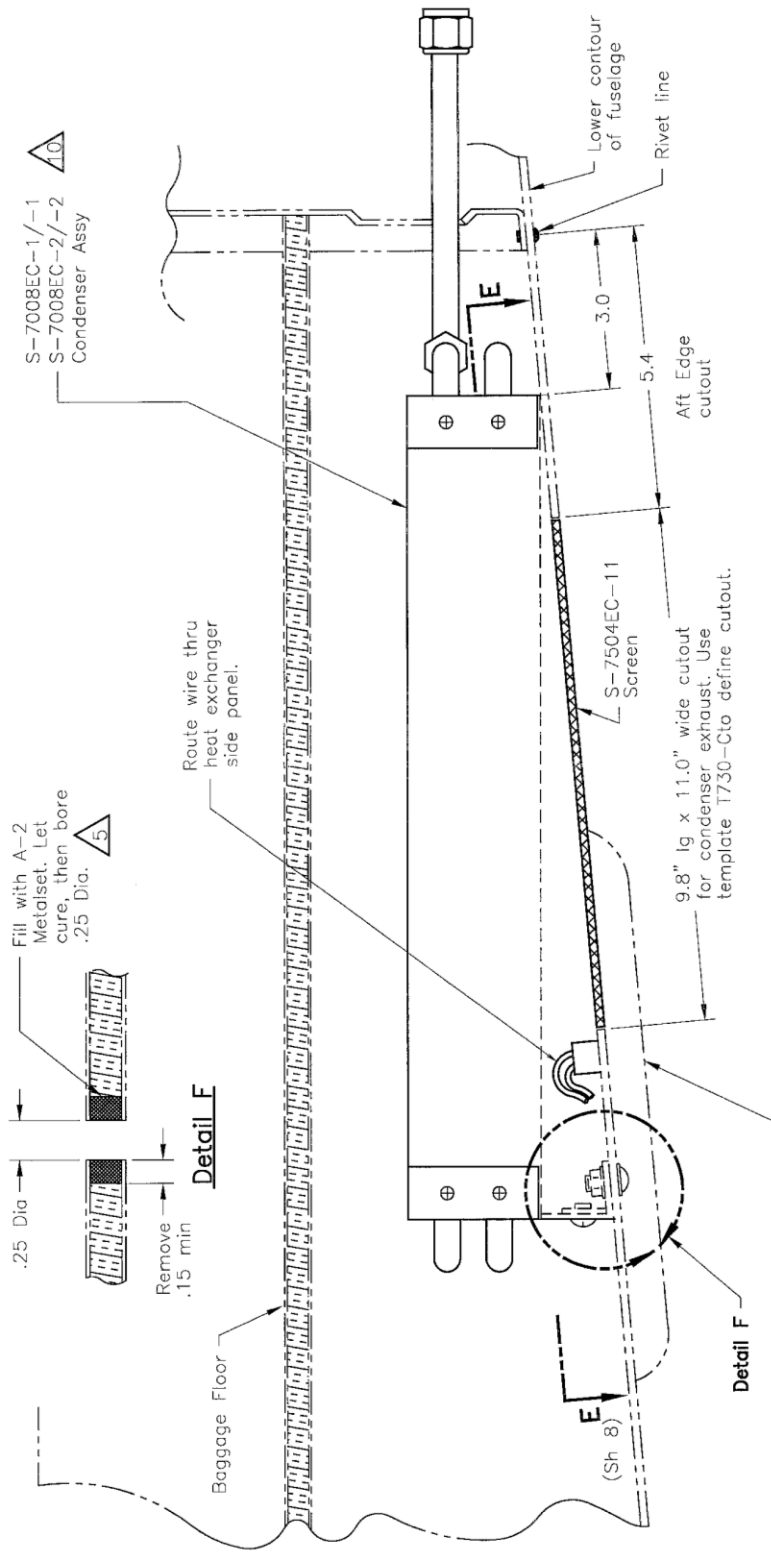

Figure 18: Condenser Install - View E-E
11. REMOVE AND REPLACE CONDENSER HEAT EXCHANGER (Figure 18).